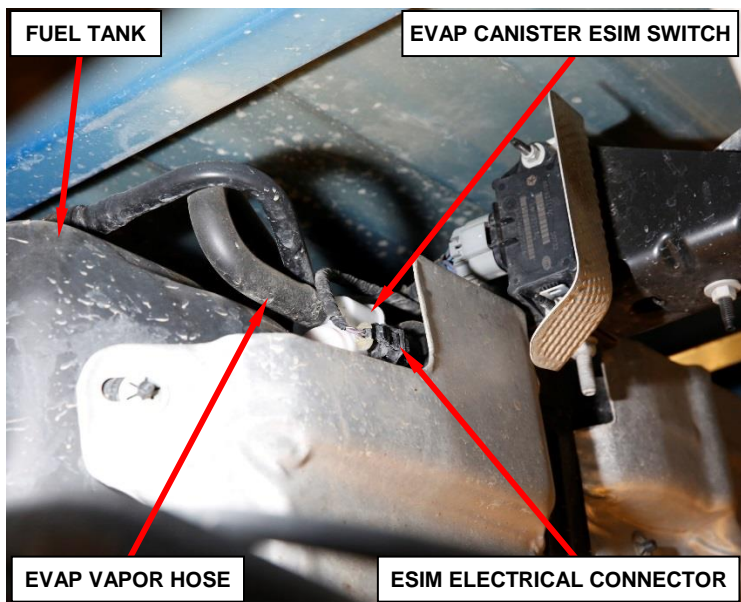

Figure 11 – EVAP Canister ESIM Switch
29. Disconnect the electrical connector from Evaporative Emissions (EVAP) canister Emission System Integrity Monitor (ESIM) switch located at the rear of the fuel tank (Figure 11).
30. Disconnect the vapor hose from the EVAP canister ESIM switch (Figure 11).
74. Connect the vapor hose to the EVAP canister ESIM switch (Figure 11).
75. Connect the electrical connector to the EVAP canister ESIM switch (Figure 11).